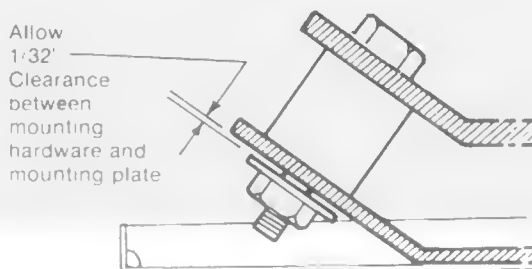

FIGURE 2. VIBRATION ISOLATORS
2. Vibration isolators of the type shown in Figure 2 are factory installed and should require no adjustment. If unit is removed mounts must be properly reinstalled. Allow 1/32" clearance between mounting hardware and mounting plate.